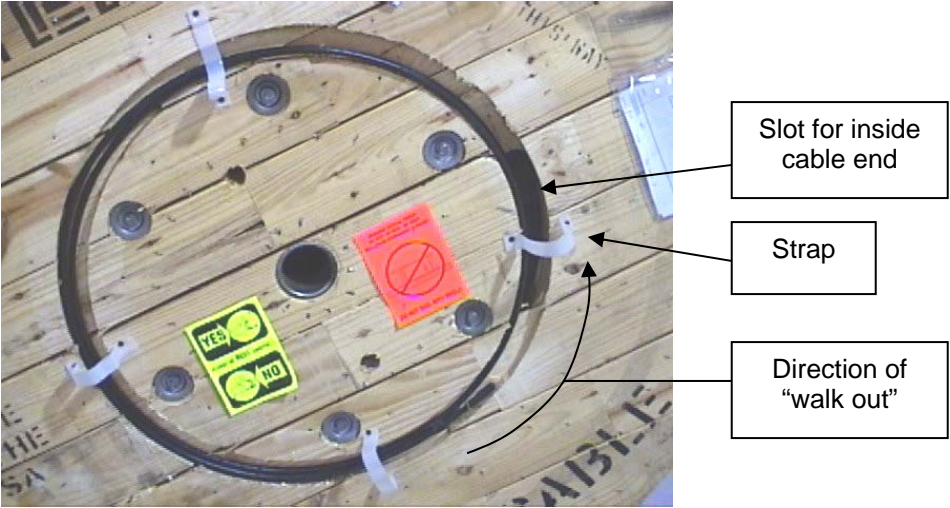

Figure 2 – Protective lagging boards removed to expose the inside cable end.
3.5 Because the cable reel may shrink as the wood ages and dries, a small amount of cable slack may form in the inside layer of cable. As the cable is being paid off the reel, slack cable will work itself towards the inside end of the cable and through the slot in the side of the cable reel. Pull out the white plastic straps and tape together the exposed coils of the cable. This allows the cable to “walk out” through the slot but remain restrained within the space provided by the straps (see Figures 2 and 3).